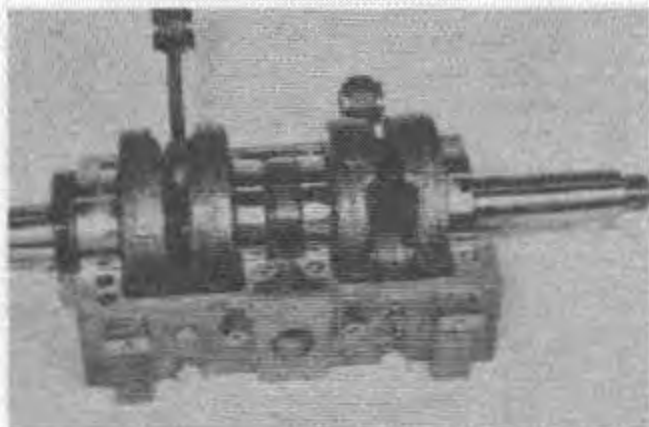

Fig. 14 — Crankshaft Positioned in Lower Crankcase
2. Clean crankshaft halves, removing any old sealant or burrs. Apply a coating of sealing compound to bearing bores and mating surfaces of crankshaft halves and place crankshaft into position in lower half, Fig. 14. Rotate shaft to check seal and bearing alignment and install upper half of crankcase by tapping it lightly.